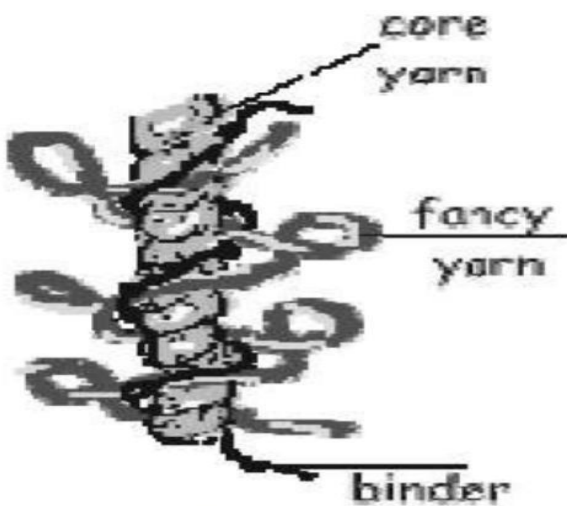

Fig 11.4
- Fancy yarns usually have a base or core yarn which is a conventional plain yarn, this yarn is combined with the effect yarn shown in Fig 11.4